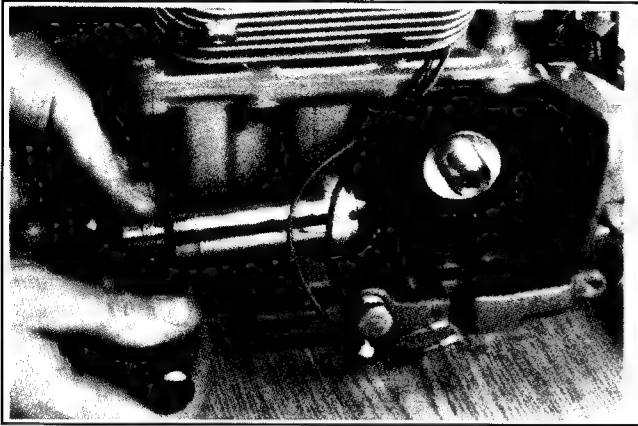

Figure 9-38. Removing Oil Sentry™ Switch.
2. Remove the Oil Sentry™ switch from the oil filter adapter. See Figure 9-38.